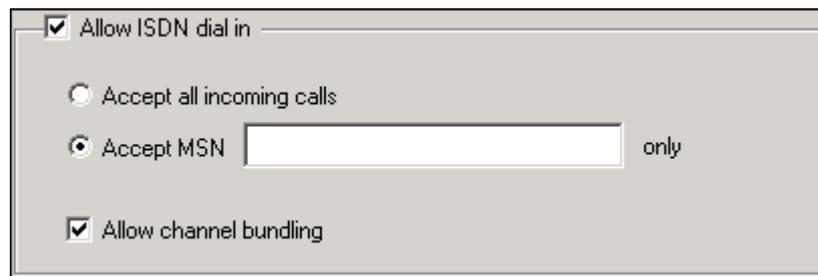

Fig. 15 *Allow channel bundling* checkbox on the *Network* tab
2. Mark the checkbox **Allow channel bundling** (see "Fig. 15", *page 29*).